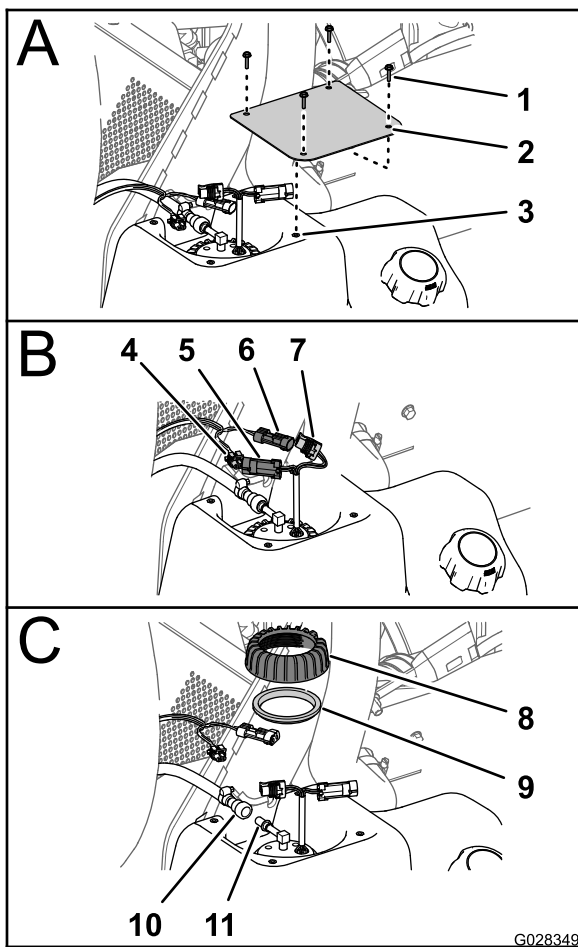

Figure 71
2. At the fuel tank, remove the 4 screws (#10 x 3/4 inch) that secure the cover to the top of the fuel tank, and remove the cover (Figure 71).
3. Disconnect the 2-socket connector of the machine-wire harness from the 2-pin connector of the fuel pump/sending unit; disconnect the 2-pin connector of the machine-wire harness from the 2-socket connector of the fuel pump/sending unit (Figure 71).
4. Slide the locking sleeve of the fuel-hose coupling away from the fitting of the fuel pump/sending unit and remove the coupling and hose from the fitting (Figure 71).
5. Rotate the nut for the fuel pump/sending unit counterclockwise and remove the nut and seal (Figure 71).